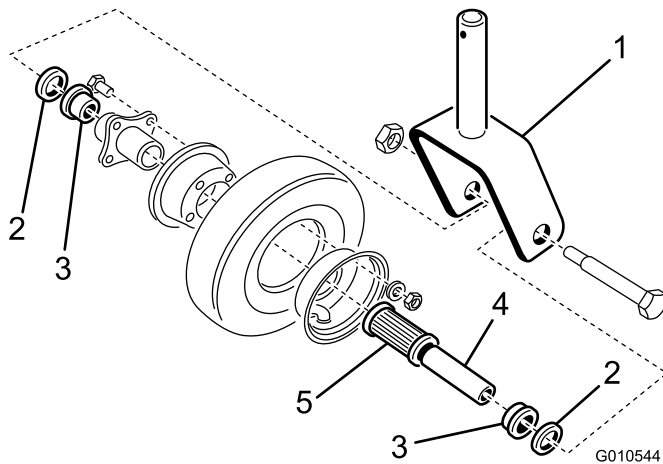

Figure 19
2. Tip the wheel to the side and allow the spanner bushing (Figure 19) to fall out.
3. Remove one bearing retainer from the wheel hub and allow the bearing to fall out. Remove the bearing retainer from the opposite side of the wheel hub (Figure 19).